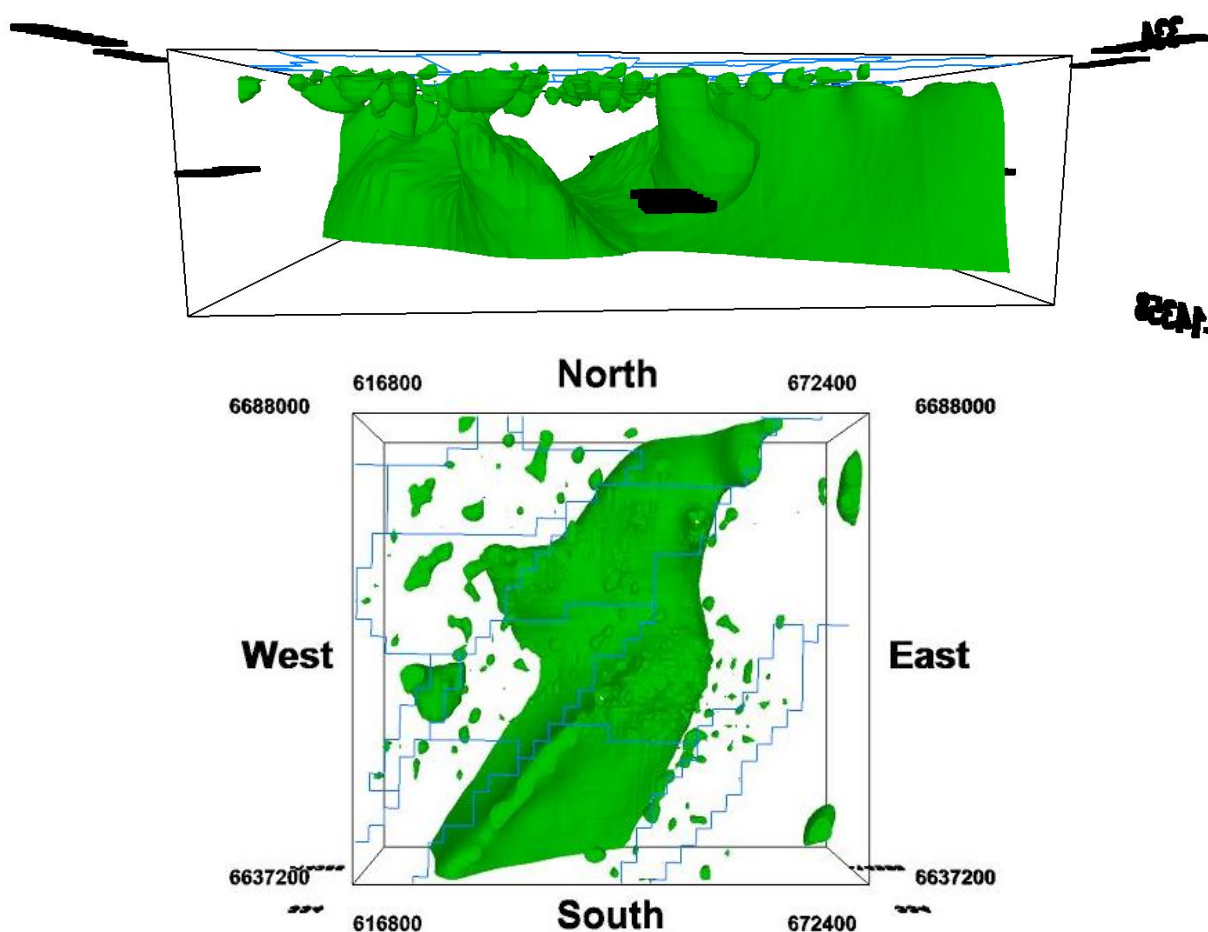

Figure 2: 3D Inversion Modelling of Gravity Data (long and plan views)
- Confirmation of a major gravity high that “under-plates” the Plumridge Project. This is consistent with the existing regional gravity work (**Figure 2**);